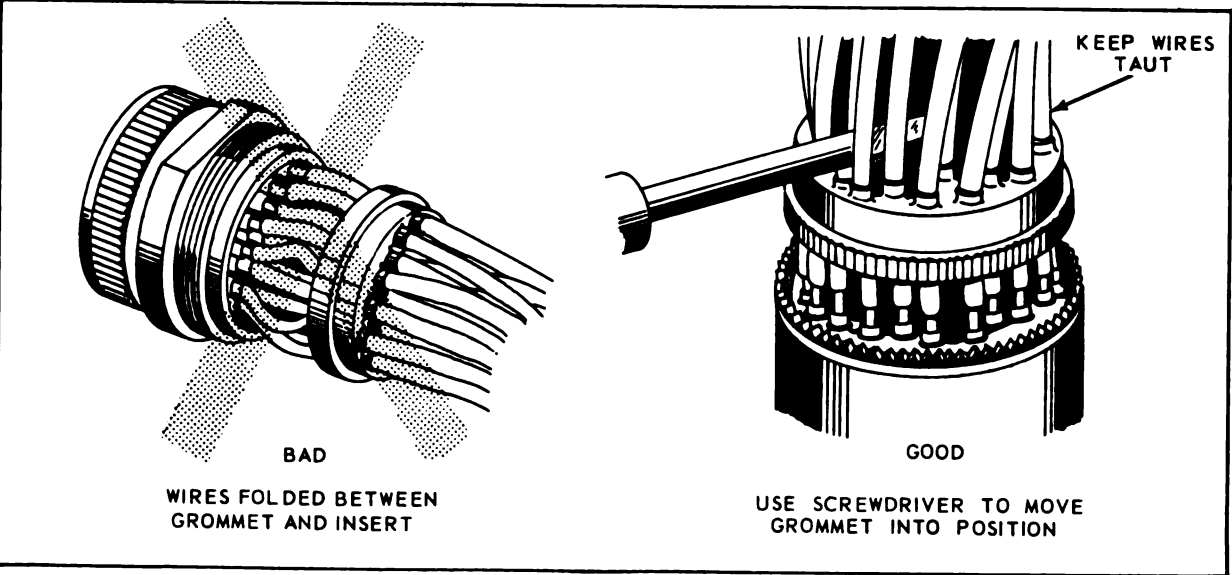

Figure 3-66. Cannon Class E Connector - Grommet Installation
- g. Slide grommet follower down over wire bundle. Use same caution as in step f. (See figure 3-66.)